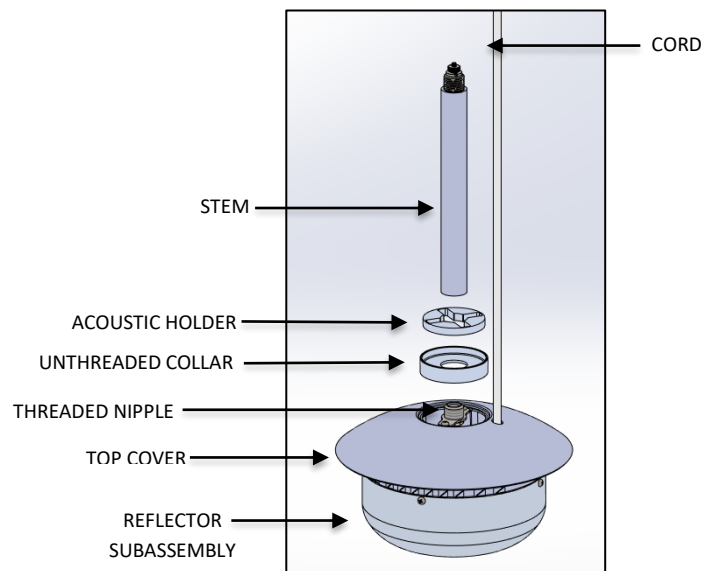

FIG. 34 ACOUSTIC PANEL HOLDER ASSEMBLY
25. Center TOP COVER, UNTHREADED COLLAR, and ACOUSTIC HOLDER on top of REFLECTOR SUBASSEMBLY as shown in FIG. 34. Ensure the deeper recess on UNTHREADED COLLAR is facing up and will hold the ACOUSTIC HOLDER.